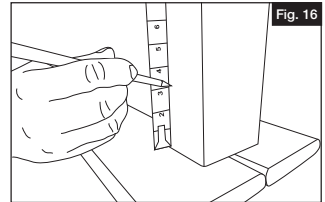

Fig. 16
- Establish the placement of the bottom of the level panel based on your desired rail height. Mark a line on your mounting surface at this height plus $1\frac{1}{8}$ " to represent the top of the mounting bracket (Fig. 16).